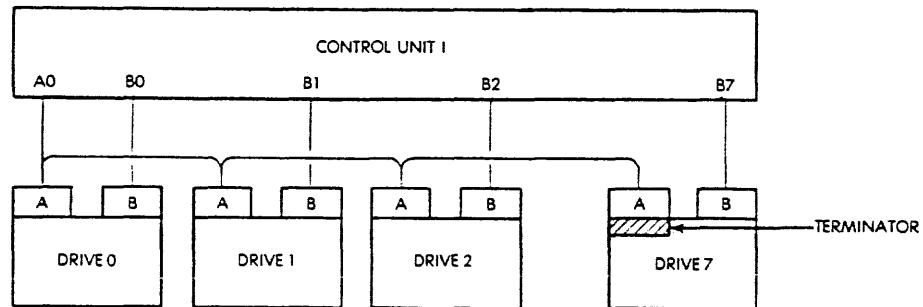

Figure 8-10. Daisy-chain Cabling, Single Channel
6. Run an internal A-cable from connector board to CNP41 on the first drive. Run another A-cable from CNP42 to CNP41 on the next drive. Repeat this until the remaining drives have been connected. Terminate the last drive at CNP42 (Figure 8-10).